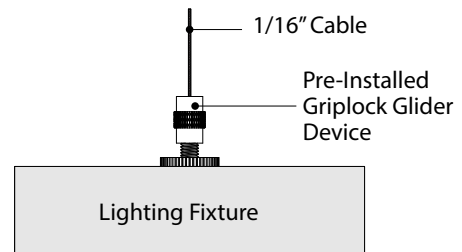

FIGURE 4
4. Release Plunger to secure Cable and tighten plunger cap. *See Fig 4.*